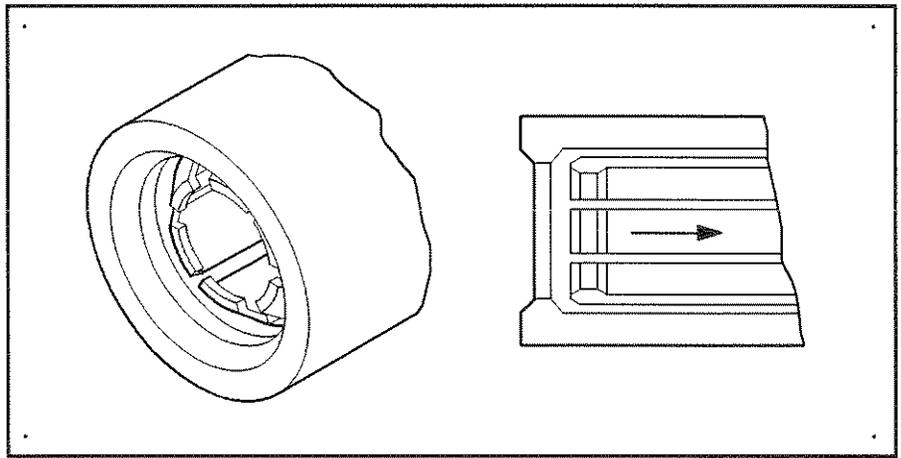

Figure A-6. Inner Contact Pushed Inside
- The inner contact is pushed inside the center conductor and does not make contact with the mating connector's male pin (see Figure A-6).